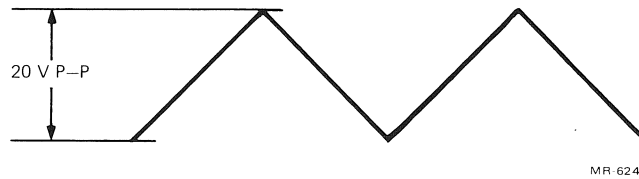

Figure 6-4 DAC Ramp Test Pattern
9. Start Test 4 of the CVAXA diagnostic and monitor the output of D/A A and D/A B with an oscilloscope. Their output should be a smooth waveform, as shown in Figure 6-4. Type **CTRL C** to stop Test 4.